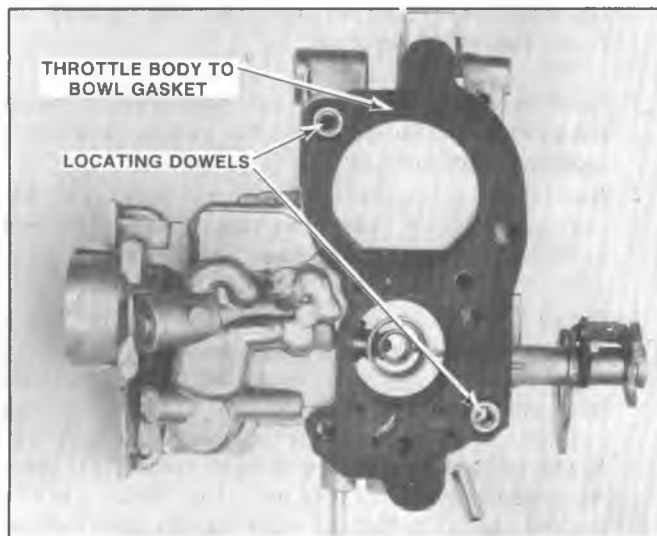

Fig. 6C2-17--Throttle Body to Bowl Gasket
5. Install choke housing on throttle body, making sure raised boss and locating lug on rear of housing fit into recesses in float bowl casting (Fig. 6C2-13). Install (2) choke housing attaching screws and lockwashers in throttle body and tighten screws evenly and securely.
6. Install intermediate choke shaft and lever assembly in float bowl by pushing through from throttle lever side (Fig. 6C2-12).